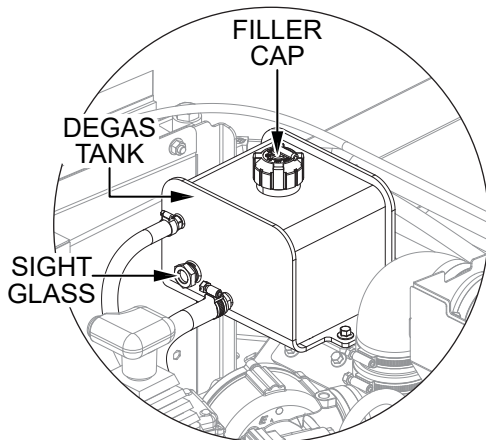

Figure 24. Radiator Degas Tank
2. Inspect the level of coolant in the radiator degas tank through the sight glass on the side of the tank (Figure 24). The proper level of coolant is shown by the level indicators molded into the tank wall.
3. If the coolant level is low, turn the degas tank filler cap (Figure 24) 90 degrees counterclockwise, pause to allow any pressure to drop, then turn the cap fully counterclockwise and remove it.